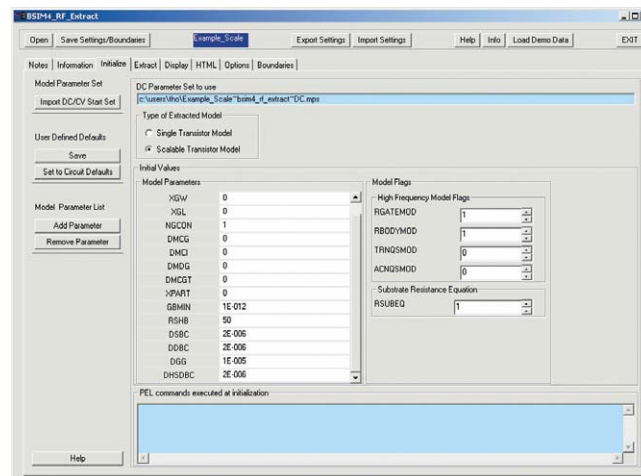

Figure 11: The IC-CAP BSIM4 toolkit allows a single or scalable RF transistor modeling approach. Check the box and let IC-CAP perform the necessary task.
1. To extract a complete set of RF BSIM4 model parameters, start with initialization of required or known model parameter values, and choose the appropriate model flags, as shown in Figure 11.